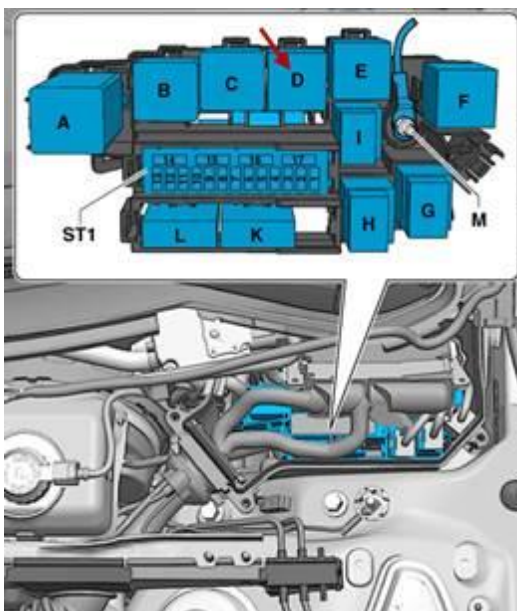

Figure 1. Location of J271 relay (D), as shown in Elsa.
2. Check Elsa for the location of the J271 relay (*Wiring diagrams >> Component locations >> Component Locations: Relays*) (Figure 1).